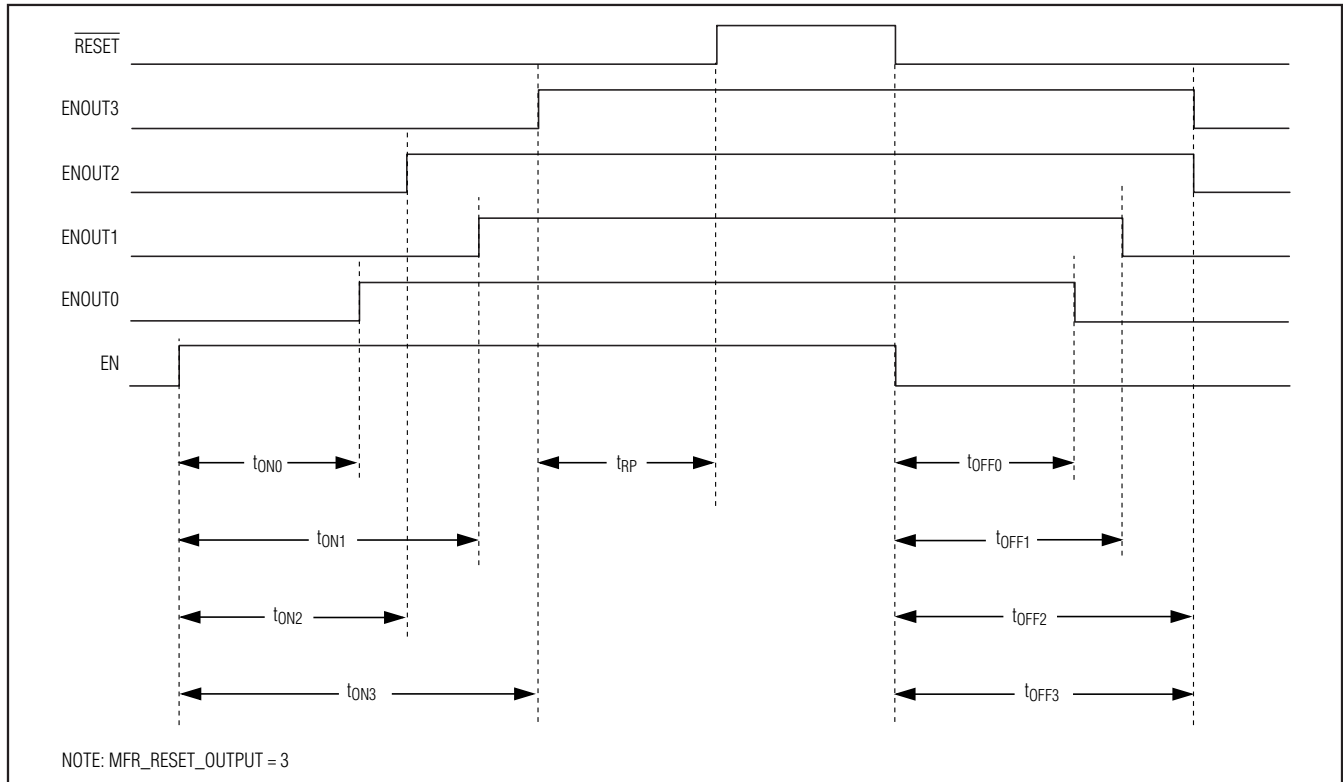

Figure 9. MAX16064 Typical Sequencing Timing
$\overline{\text{RESET}}$ is an active-low, open-drain output that is low when the device is powering on. $\overline{\text{RESET}}$ is assigned to one of the power supplies using the MFR_RESET_OUTPUT command. When that power-supply output is at the target voltage, $\overline{\text{RESET}}$ goes high after the reset timeout period (see Figure 9). The reset timeout period (t_{RP}) is set by the MFR_RESET_DELAY command.
The MAX16064 includes an enable input (EN) that controls all ENOUT_ signals in conjunction with the MFR_MODE command. Unless MFR_MODE.IGNORE_EN is set, a below-threshold level on EN prevents any ENOUT_ from turning on. Additionally, if the voltage at EN falls below the 1.2V (typ) threshold during OPERATION ON, the MAX16064 follows the fault action in MFR_FAULT_RESPONSE.EN. Figure 9 shows a typical sequencing with MFR_MODE.IGNORE_EN = 0.